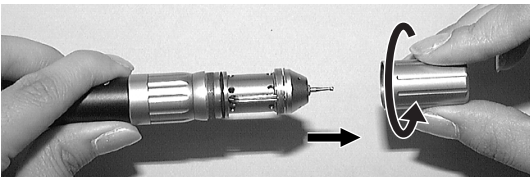

Fig.13
- (1) Loosen the cartridge retainer to remove. (Fig.13)